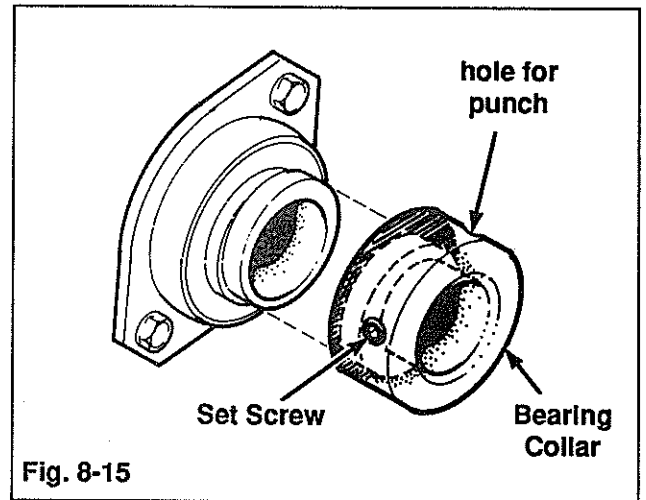

Fig. 8-15
6. Loosen locking collar set screws. Loosen locking collar by inserting a punch in the hole in the collar and striking the punch with a hammer. The collar is an eccentric (oval) design (See Fig. 8-15). To loosen the collar, turn it in the opposite direction of normal rotation.